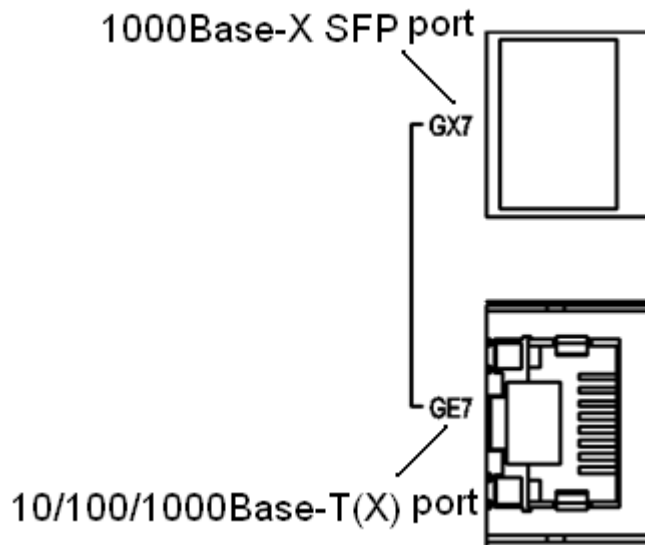

Figure 16 Combo Port
5.3 1000Base-X, 10/100/1000Base-T(X) Combo Port
As shown in Figure 16, The 1000Base-X, 10/100/1000Base-T(X) Combo port consists of one 1000 Base-X port (GX7) and one 10/100/1000Base-T(X) Ethernet port (GE7), and only one of the two ports can be used at one time, and the 1000 Base-X port has priority over 10/100/1000Base-T(X) port. Plug the optical fiber and the twisted pair into GX7 and GE7 respectively; GX7 can communicate normally and the GE7 will be disabled automatically.